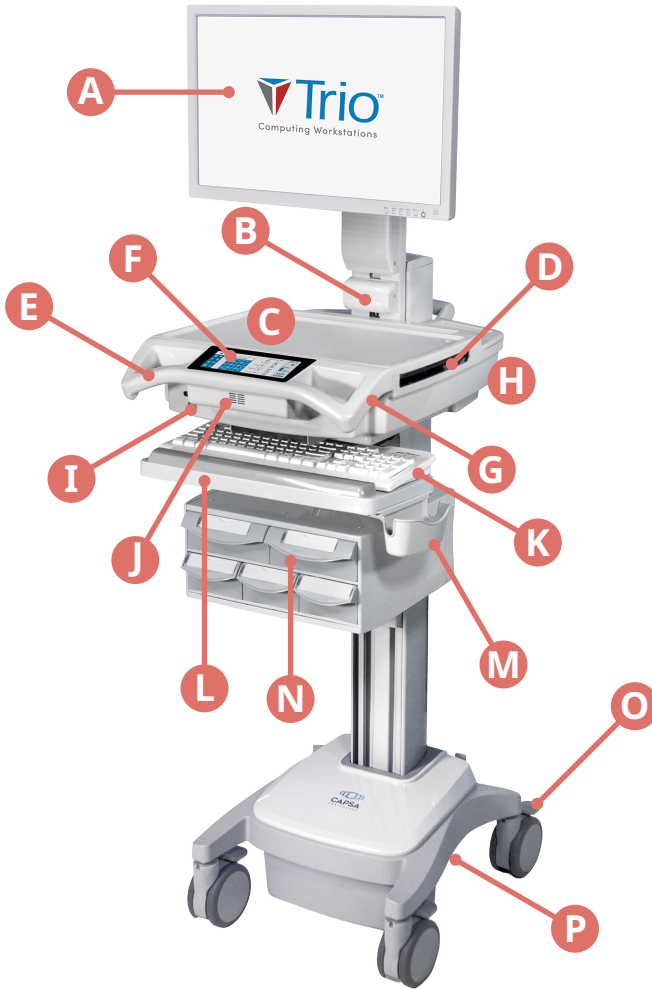

Figure 1: Components of Trio Carts (front view)
1. Insert the security key into the work surface lock (I on Figure 1, page 10).